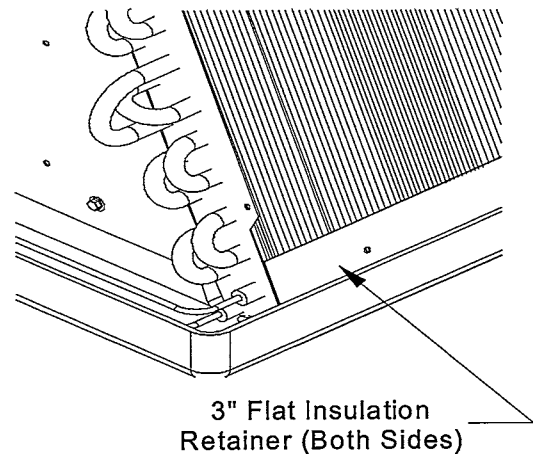

Figure 6
10. To prevent possible condensate "blow off" the insulation retainers are to be laid into the evaporator coil pan as shown in **Figure 6**.